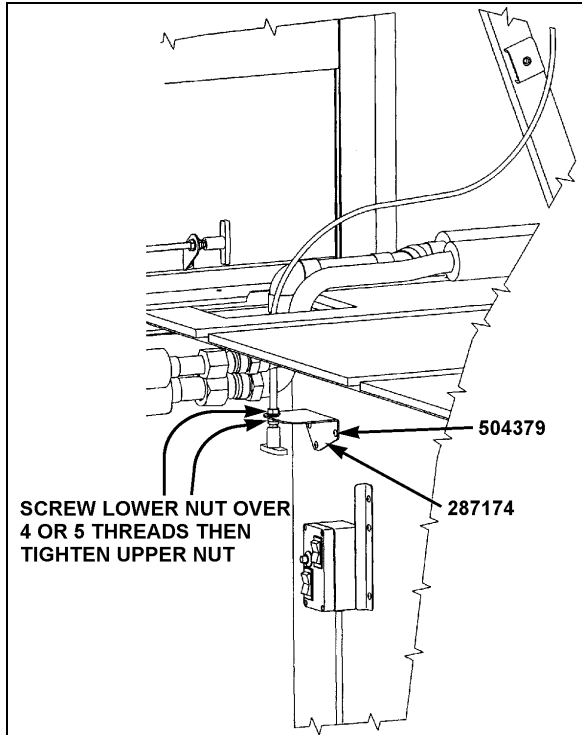
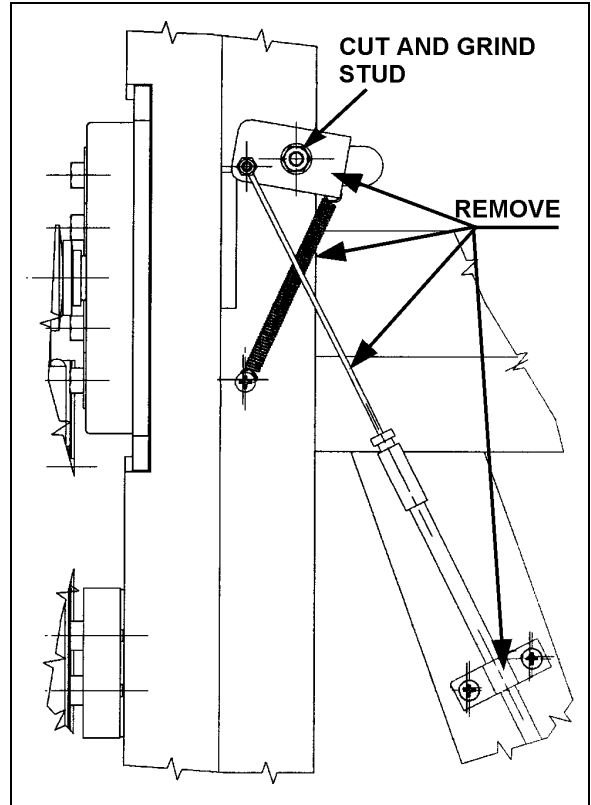
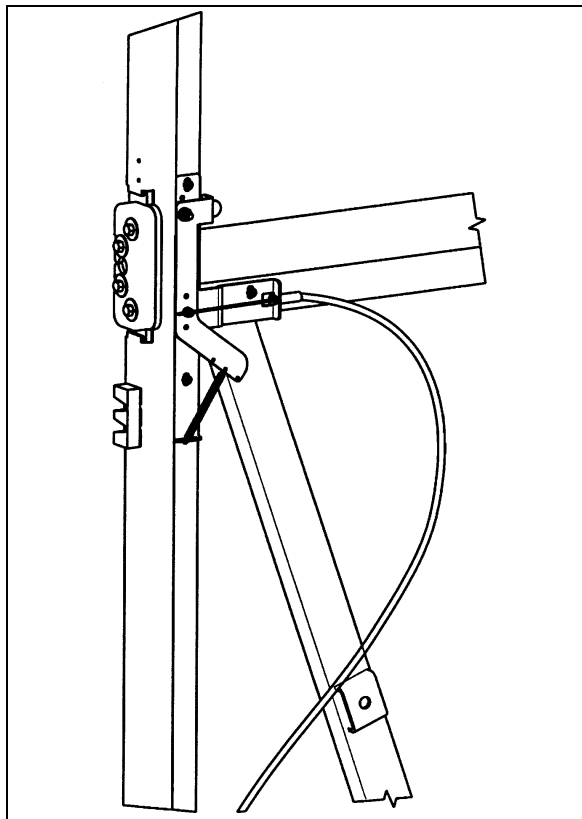

FIGURE 3 : HANDLE AND SUPPORT
FIGURE 4 : FORMER INSTALLATION
FIGURE 5 : NEW INSTALLATION
4. Remove parts identified in figure 4 then install new mechanism (289242) and new control cable (780636) as indicated in figures 5 and 6. Secure new mechanism using screws (500658) then verify for proper operation. Secure control cable to handle then tighten the nuts as indicated in figure 3.
Note: Proper operation may be affected if mechanism nut (see 500590, figure 4) or handle nuts are too tight (see figure 3).